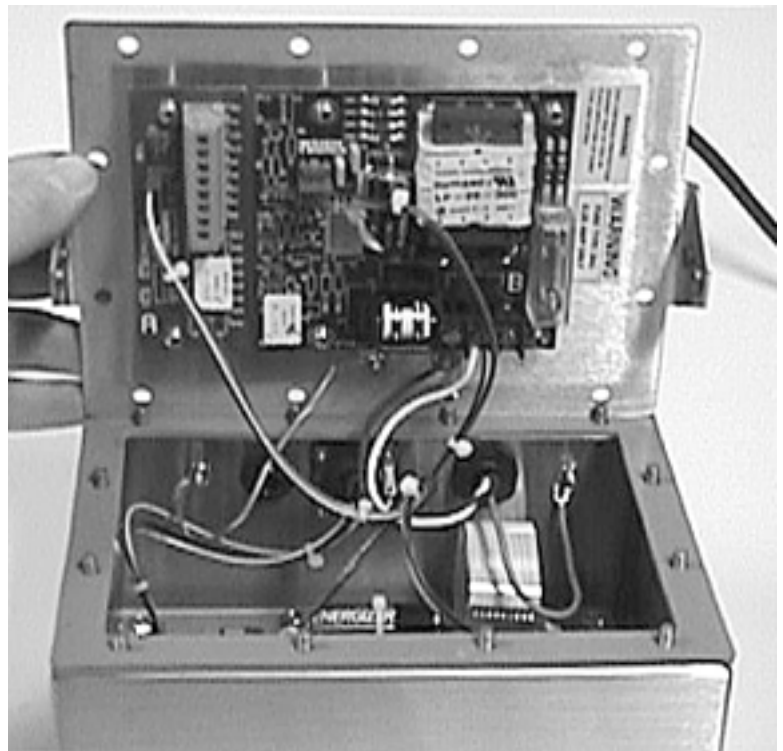

Figure 11
4. Lift the back of the indicator off, being careful of the connecting wires. See Figure 11.